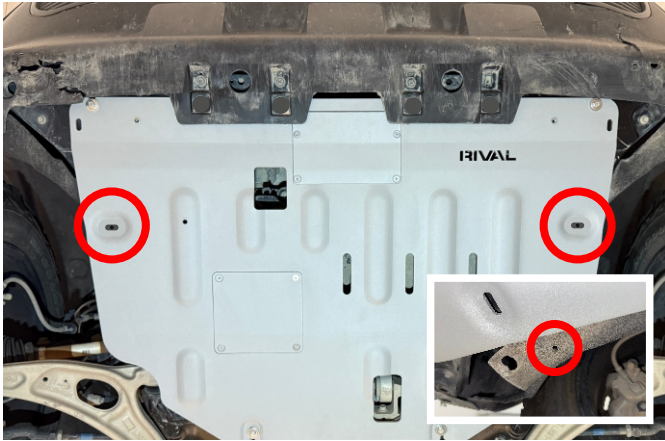

Fig. 5
5. Cut factory felt liners to allow for installation of supplied bolts on both sides of the vehicle as shown in fig. 5.